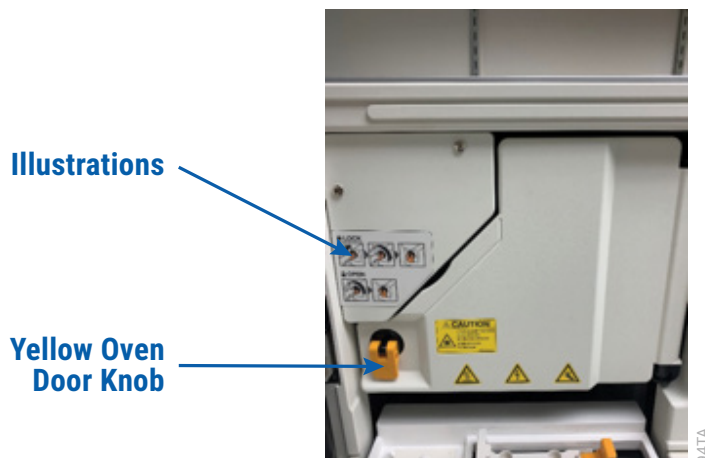

Figure 34. Spectrum Compact yellow oven door knob.
- Open the oven door by turning the yellow knob on the lower left corner of the oven door counterclockwise 180 degrees as depicted in the illustrations on the oven door (Figure 34). Remove the previously used capillary cartridge by pulling on the yellow gripping knob in the middle of the Spectrum Compact Capillary Cartridge. If the capillary cartridge currently installed on the instrument will be stored for future use, follow instructions for Uninstalling and Storing the Capillary Cartridge (see Section 3.3).
10. Close the oven door by turning the yellow knob on the lower left corner of the oven door clockwise 180 degrees as depicted on the illustrations on the oven door (Figure 34).
6. Turn the yellow rotary oven door knob counter-clockwise 180 degrees to open the oven door (Figure 34).